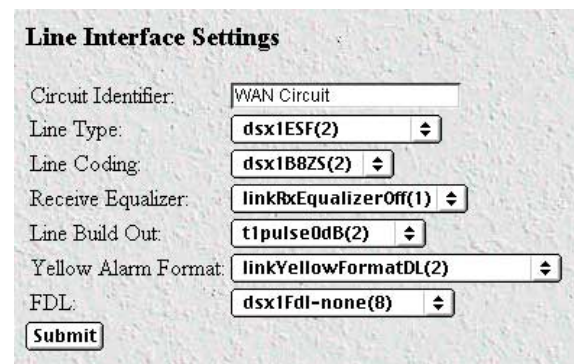

Figure 26. WAN Circuit Configuration window, Line Interface Settings section
2. Link: 1 corresponds to Line 1 on the DACS. Under Link 1, Click on Configuration then Modify. The Line Interface Settings section of the WAN Circuit Configuration window appears (see figure 26).
1. Click on the Line Type pop-up menu (see figure 26 on page 43) and choose either dsx1EX(4) or dsx1E1-CRC(5).
2. Click on the Line Coding pop-up menu (see figure 26 on page 43) and choose either dsx1AMI(5) or dsxHDB3(3). Most installations will use HDB3.
3. Click on the **Line Build Out** pop-up menu (see figure 26 on page 43) and select `e1pulse(1)`.
2. **Link: 1** corresponds to Line 1 on the DACS. Under **Link 1**, Click on **Configuration** then **Modify**. The **Line Interface Settings** section of the **WAN Circuit Configuration** window appears (see figure 26 on page 43).
1. Click on the **Line Type** pop-up menu (see figure 26 on page 43) and choose from the following options:
2. Click on the **Line Coding** pop-up menu (see figure 26 on page 43). The most common options are: `dsx1B8ZS` and `dsx1AMI`.
3. Click on the **Line Build Out** pop-up menu (see figure 26 on page 43) and select `t1pulse0dB(1)`.